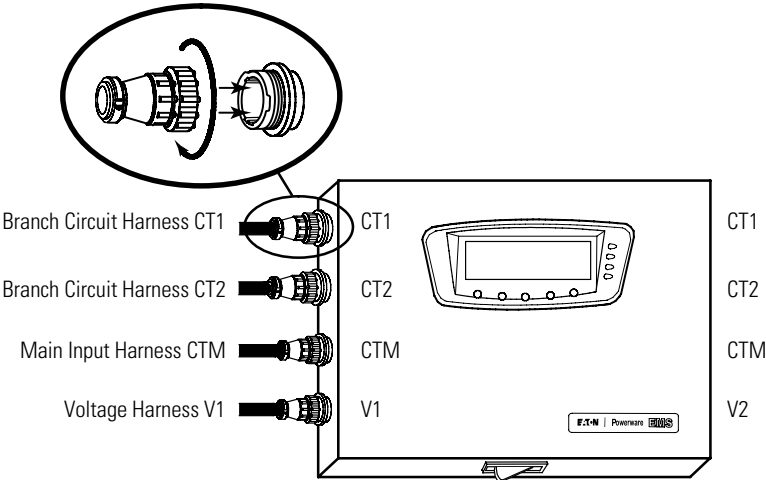
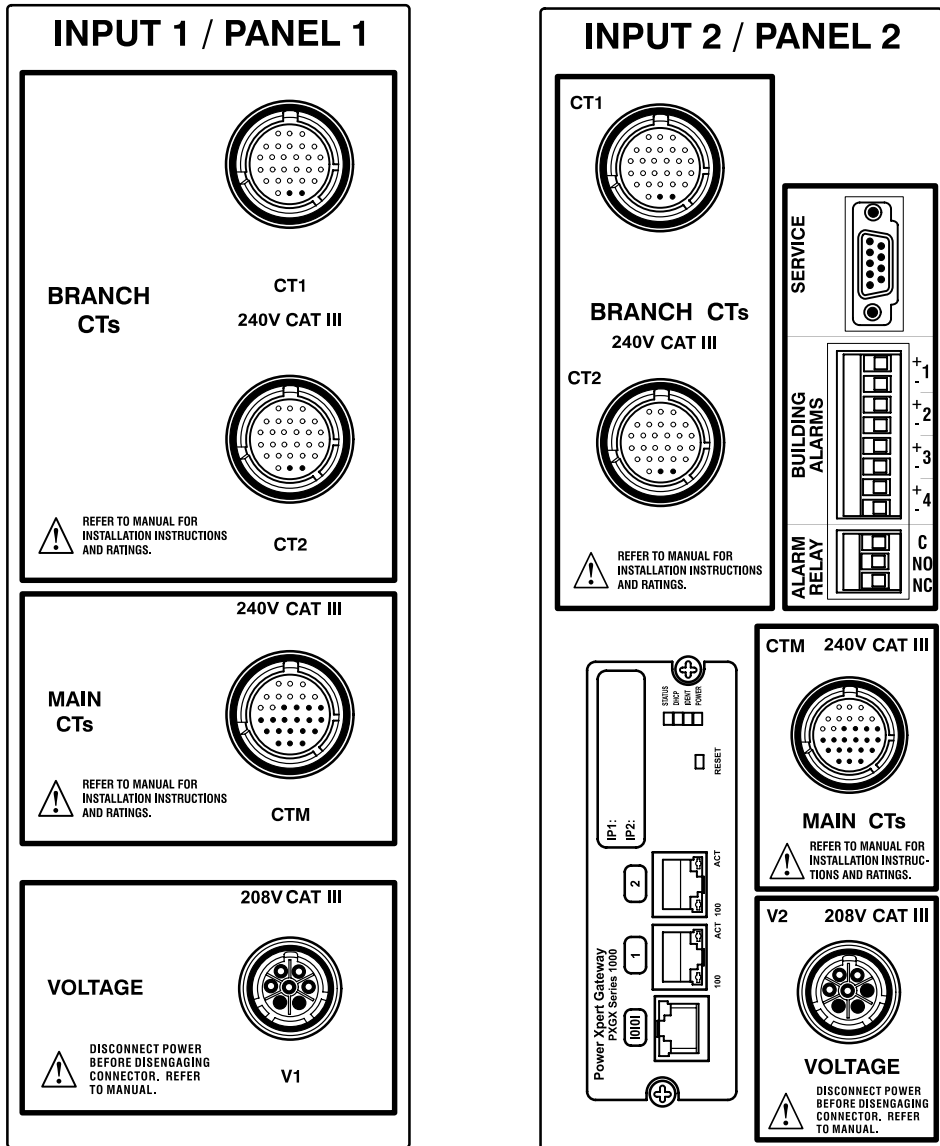

Figure 6. Harness Connections at the Electronics Module
Figure 7. Panel Detail (EMS-UGK-LV Model with Dual Panel Option Shown)
4. Connect the circular connector of each harness to the electronics module. Verify the harness label matches the connector label on the electronics module. See Figure 6 and Table 5. Figure 7 shows a detailed view of both panels.